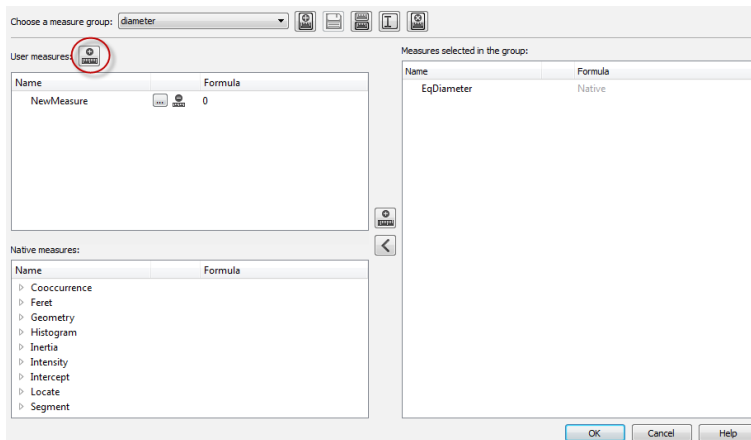

Figure 4.62: User measures definition button
- Create a user measure by pressing the dedicated button (see Figure 4.62).